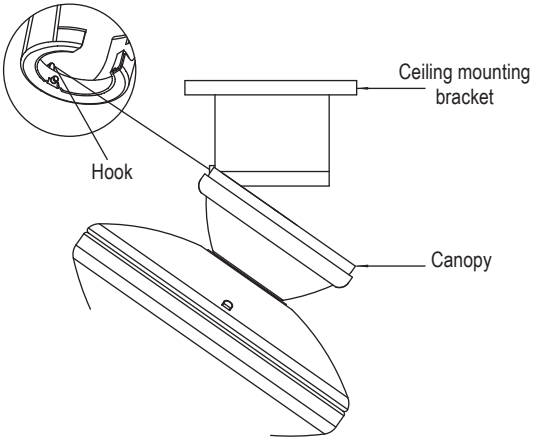

Fig. 9
Step 6. Hang the fan on the hook of the hanger bracket. Be certain that the canopy is fully locked into hook as shown in Fig. 9. This will allow you to make the electrical connections.